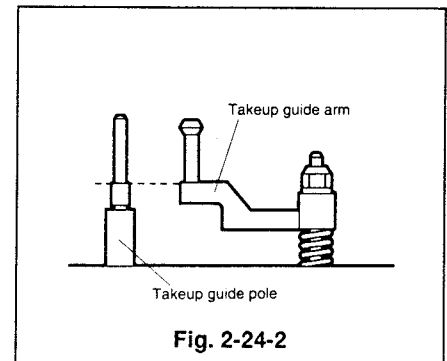

Fig. 2-24-2
- 2 Apply grease (PG-641) [859D055O30] around the top of the new takeup guide arm (the surface which touches with the nut). Fix the takeup guide arm to the shaft, and secure it with the nut. (Set the takeup guide arm to the height shown in Fig. 2-24-2 temporarily.)